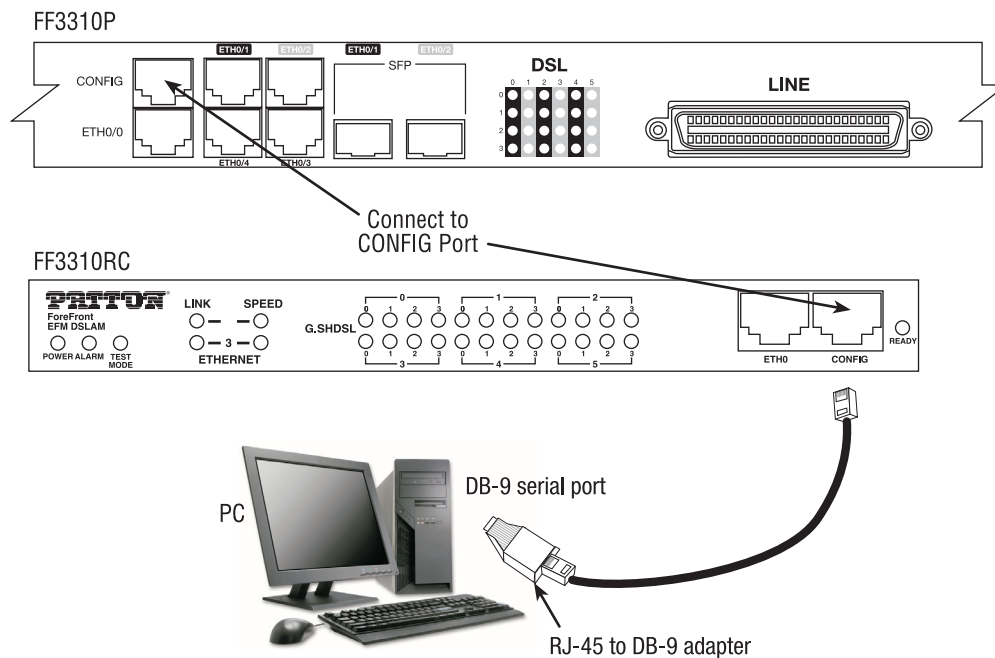

Figure 8. Connecting the FF3310RC or FF3310P to your laptop PC via the console port
1. To access the configuration via the console port, connect the DB9-RJ45 adapter to the DB-9 serial port on the PC or dumb terminal. Use the RJ45 straight-through cable between the adapter and the console port on the FF3310 (see figure 8).